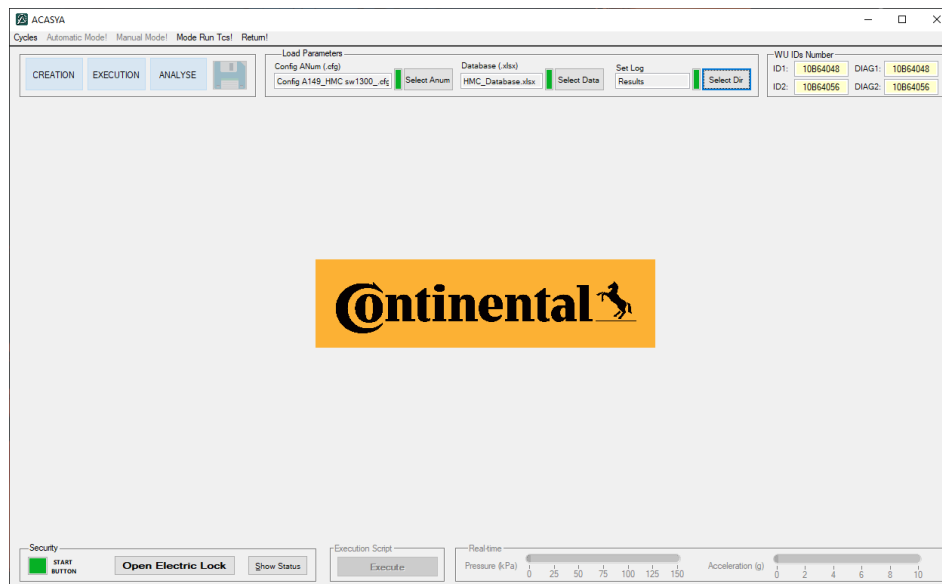

Figure 3. Main window after configuration
(1) Mode Selection Menu: gives access to the 3 modes (Creation, Execution and Analyse).
(2) Configuration Files Panel: allows to load the configurations files and working folder.
(3) WU IDs Display: shows the WU ID numbers of the WFC defined in the Database.
(4) Security Panel: indicates security status and gives access to some security tool presented in the Security and monitoring chapter.
• Once this step is completed, the **Creation**, **Execution** and **Analyse** buttons of the Mode Selection Menu are enabled and the WU IDs from the Database are loaded into the WU IDs Display, as presented in the Figure 3. Main window after configuration.